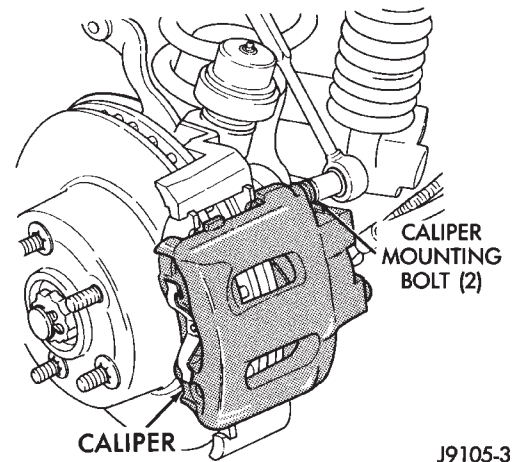

Fig. 4 Removing/Installing Caliper Mounting Bolts
- (4) Remove caliper mounting bolts (Fig. 4). **If brakeshoes are being removed to correct a pull or drag condition, verify length of caliper bolts as they may be incorrect length. Refer to bolt information in brakeshoe installation procedure.**